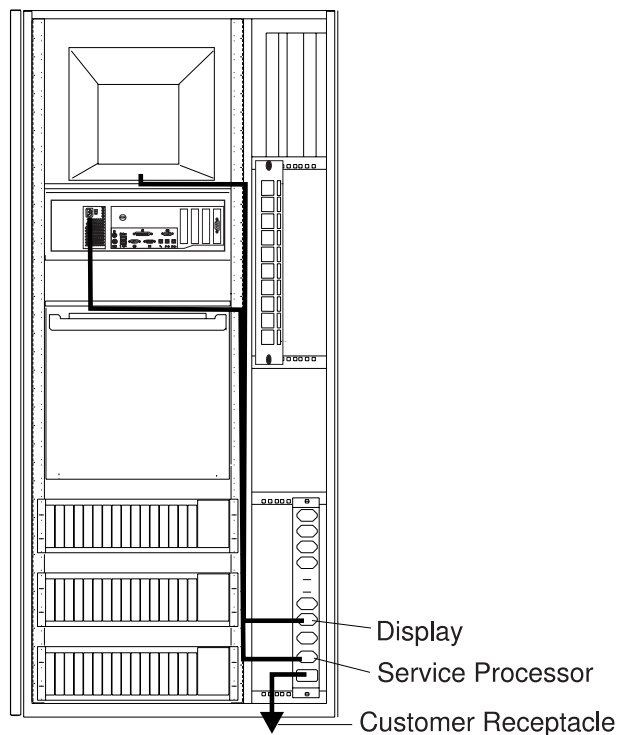

Figure 1-12. Power Cords Connection
18. Route and connect the power cords (PN 58G5783) from the display and Service Processor unit to the ac outlet distribution box as shown in Figure 1-12. Secure these cables using tie clamps along the frame, then go to **step 20**.